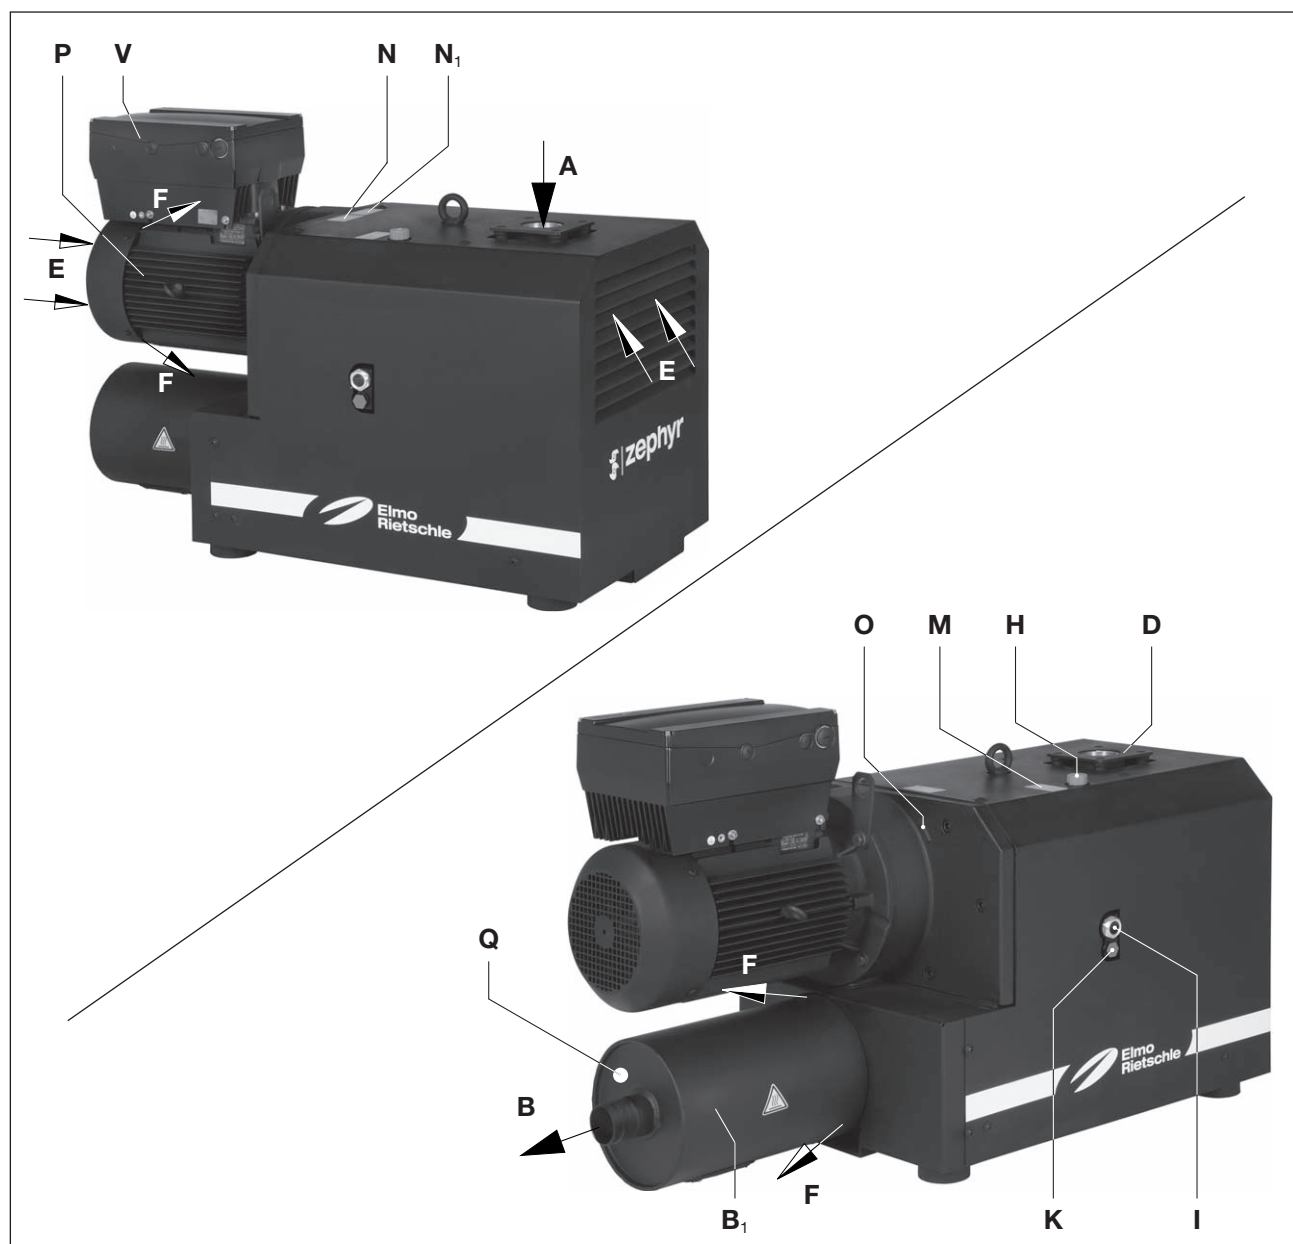

Fig. 2 Vacuum pump C-VLR 301 (15BI)
- the machine must only be operated at speed- and frequency range according to the data plate (Fig. 2/N1)
The C-VLR 301 (F001) model has a connection flange on the inlet side and an exhaust silencer on the pressure side (Fig. 2/B1). The C-VLR 301 (F002) model has a vacuum gauge (Fig. 2/Y), a suction filter (Fig. 2/S1) on the inlet side and an exhaust silencer on the pressure side (Fig. 2/B1). An integral non-return valve prevents the evacuated system from being ventilated after the pump has stopped.
The gearbox and the compression chamber are separated from each other by special seals. The gearbox is sealed from the outside with shaft seals and O rings, the compressor chamber with piston rings. The VLR 301 is enclosed in an insulating hood. In order to dissipate compression heat, the cooling air is sucked through between the machine and the hood using a drum fan that sucks in the fresh cooling air (Fig. 2/E) and discharges the heated air out of the cooling air outlet (Fig. 2/F).
Three-phase motor with integral frequency converter (Fig. 2/V) makes possible infinitely variable control of the speed.
The oil filling point (Fig. 2/H), oil sight glass (Fig. 2/I) and the oil outlets (Fig. 2/K) must be easily accessible. The cooling air inlets (Fig. 2/E) and the cooling air outlets (Fig. 2/F) must be at least 30 cm away from adjacent walls. Cooling air coming out must not be sucked in again. For maintenance work there must be a minimum of 40 cm in front of the inlet filters (Fig. 2/S1, 2/S2).
- a) Connect the vacuum line (Fig. 2/A).
- b) The extracted air can be discharged through the exhaust silencer (Fig. 2/B) or conducted away via a pipe.
- b) Connect the frequency converter (Fig. 2/V) according to the operating instructions 610.00260.40.000-EN or with the attached terminal lay-out. For the observance with the protection class IP 65 shall be provided suitable cable glands resp. shutters.